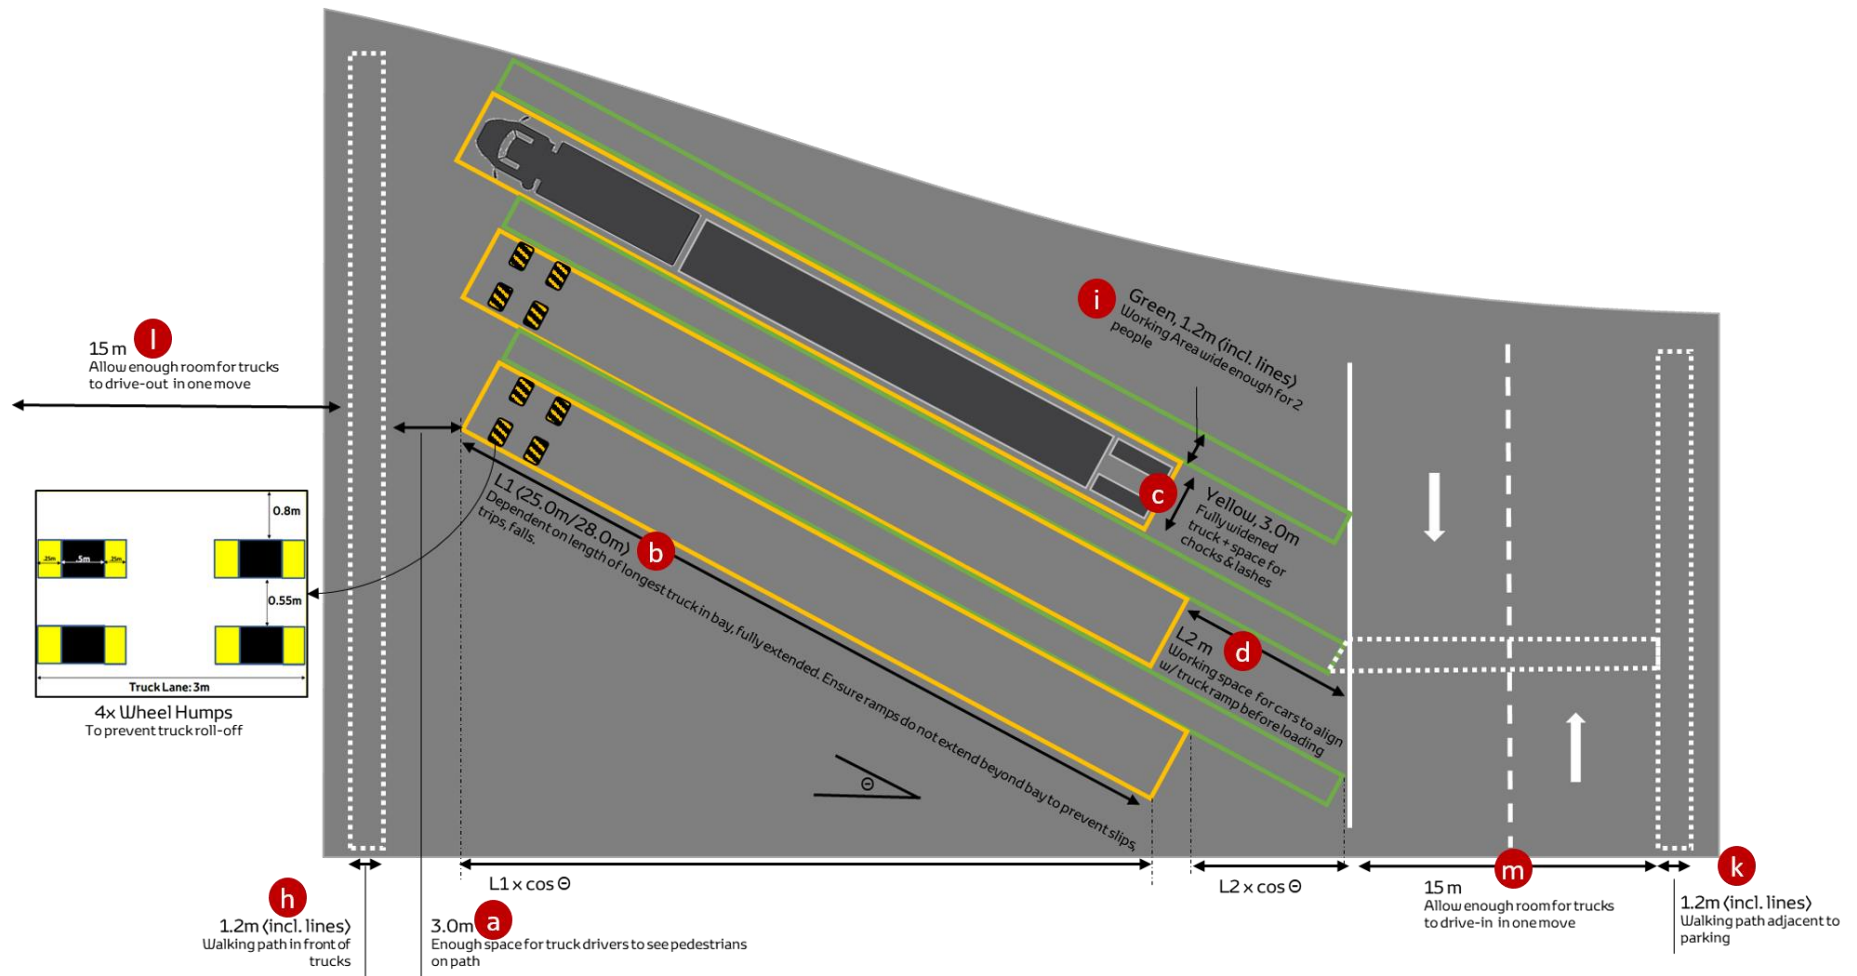

Figure 6d Layout of a truck loading area – *angled-drive-in type*
4. **Angled-drive-in type** – Figure 6d